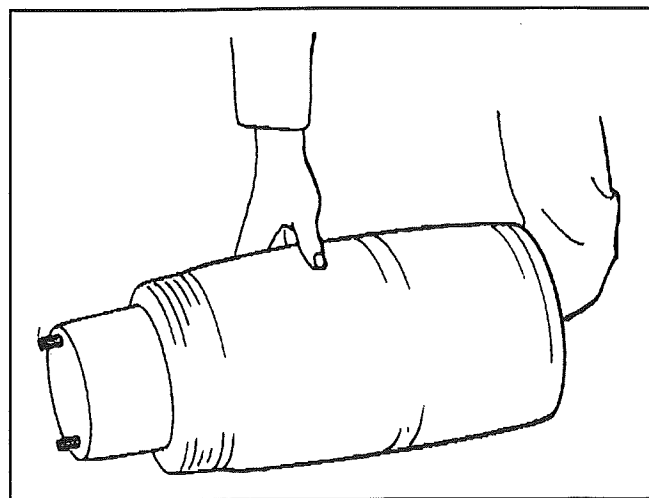

FIG. 11
- When bead is loosened around the entire surface of the lower retainer, the retainer can be forced into the bellows and removed through the upper opening (see figure 11).